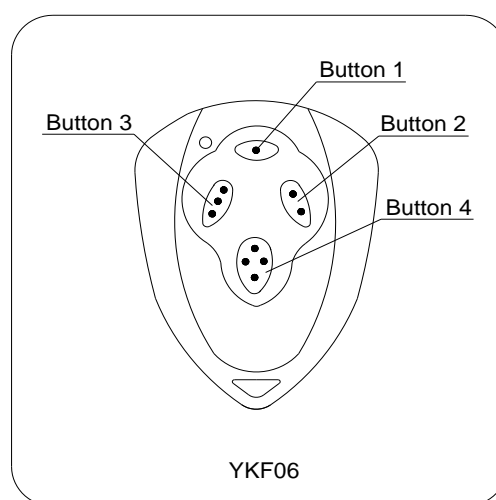

Fig.9
- The remote control works in three-channel mode (1-open, 2-close, 3-stop, 4-not used) See Fig.9.